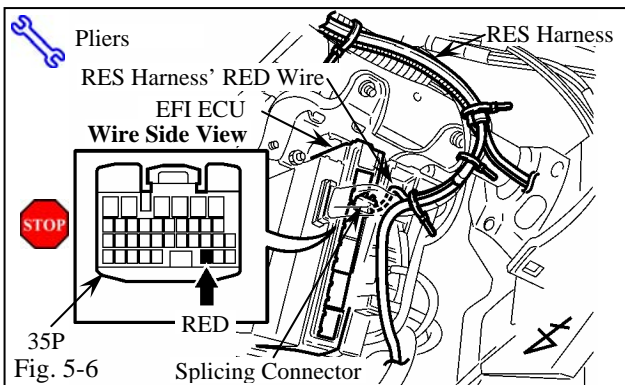

Fig. 5-6
- (k) Locate the EFI ECU's white 35P connector's RED wire (bottom row, six spaces from the left). Attach the RES harness' RED wire with a splicing connector. (Fig. 5-6)
- (1) Turn the connector so the wires face you and the tab is on top.
- (2) Verify the correct wire is chosen for the splicing.
- (3) Verify the splicing connector is applied properly.